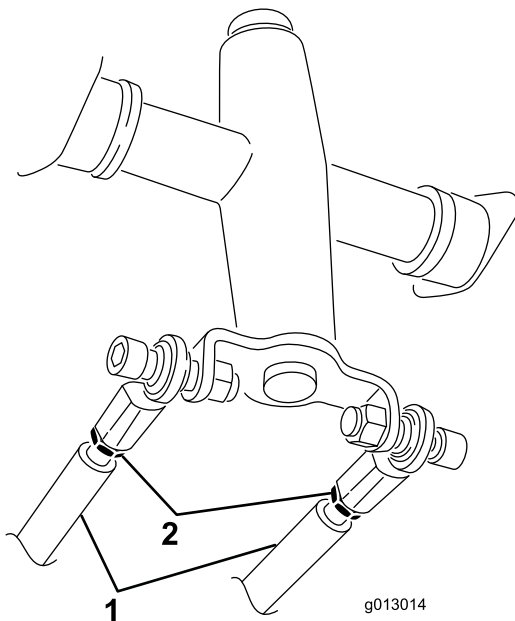

Figure 52
3. Loosen the jam nuts on the traction rods, under the control panel (Figure 52).